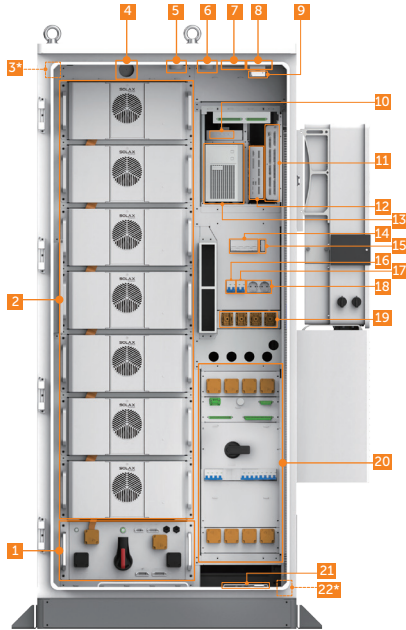

Figure 2-6 Parts description
- The mark "\*" indicates that parts in the front view (Figure 2-6) cannot be fully seen.